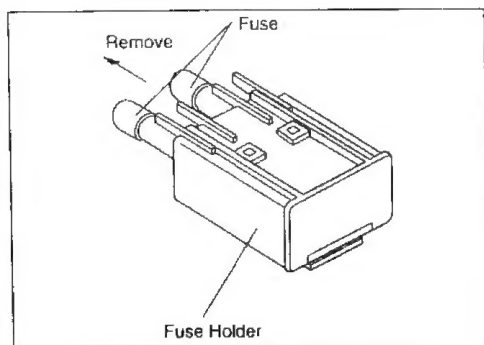

Fig. 66
4. Inspect the fuse, remove and replace the fuse if blown (Fig. 66).